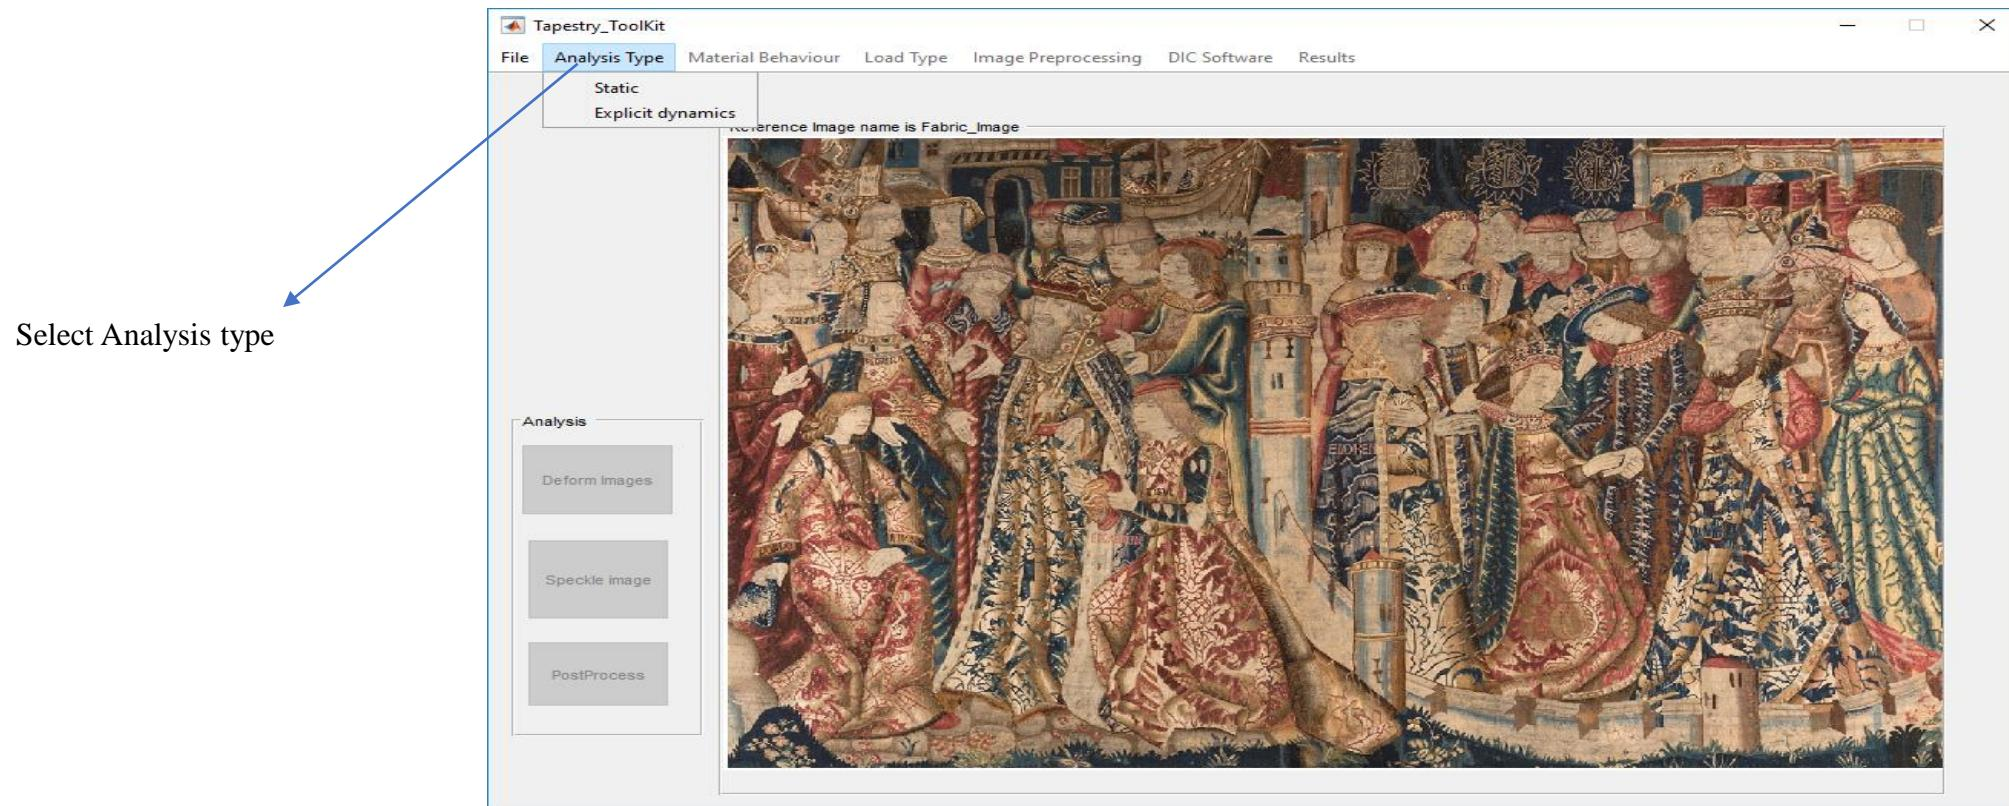

Figure 3
- Once the reference image has been selected, the **Analysis Type** menu becomes active (see Figure 3)!